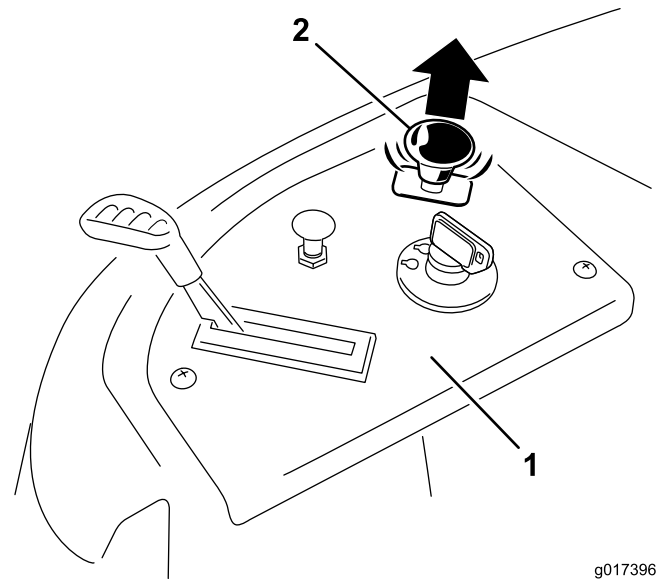

Figure 15
- Pull up on the blade control switch to move it to the On position and engage the blades (Figure 15).